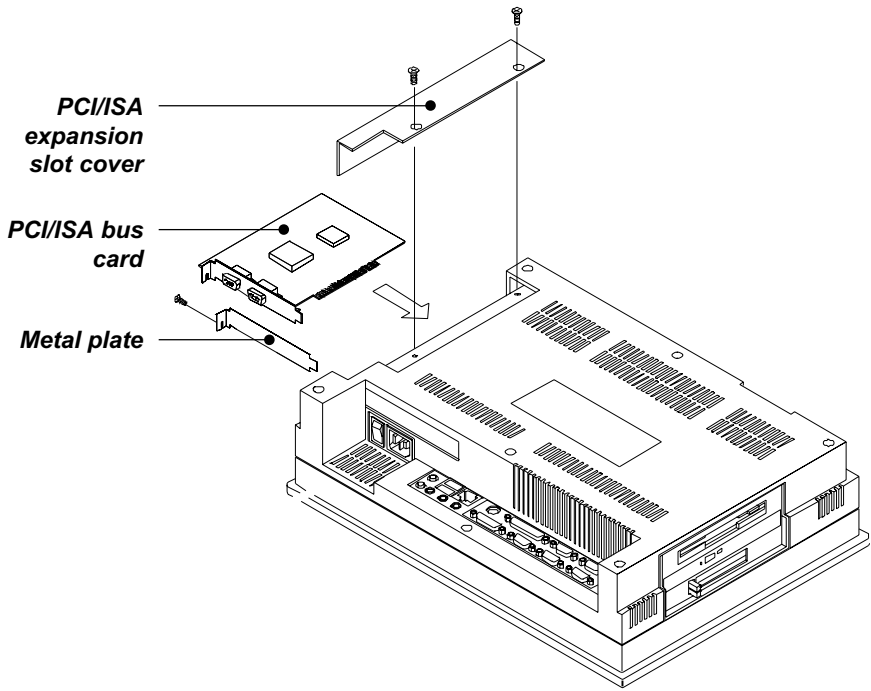

Figure 3-6: PCI/ISA bus expansion
4. Insert the PCI or ISA bus card into the PCI/ISA slot of the riser card. (See Fig. 3-6 overleaf.)